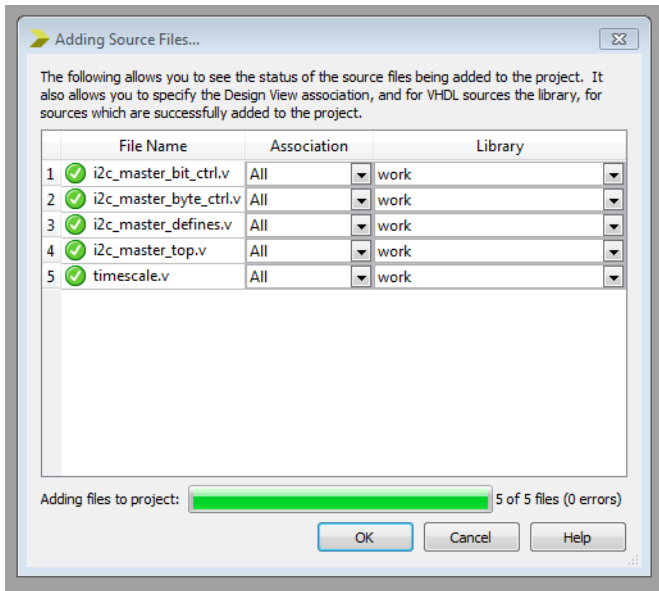

Figure 4-7 Project source files
3. When all the source files have been added, click OK (Figure 4-7).